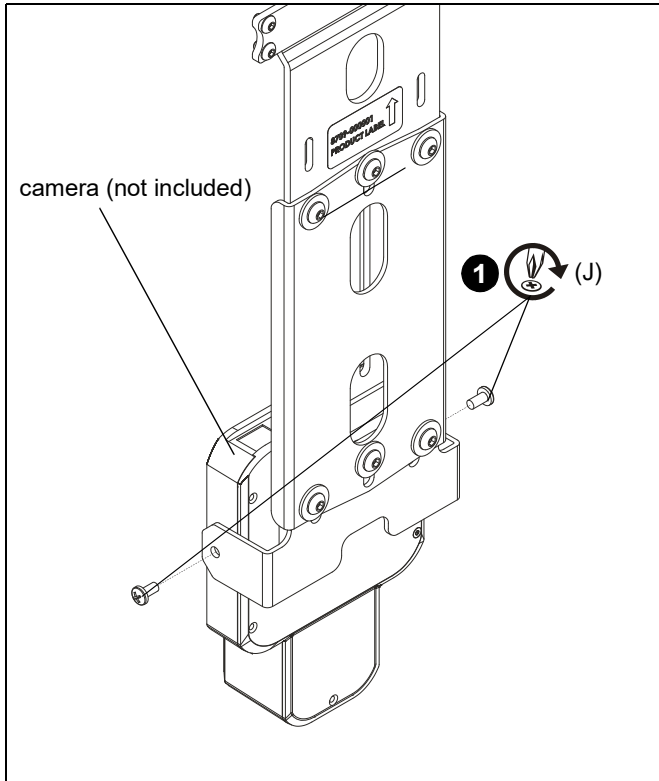

Figure 7
1. Install two #10-32 x 3/8" Phillips pan machine screws (J) through holes on camera bracket (C) and into holes on sides of camera. (See Figure 7)